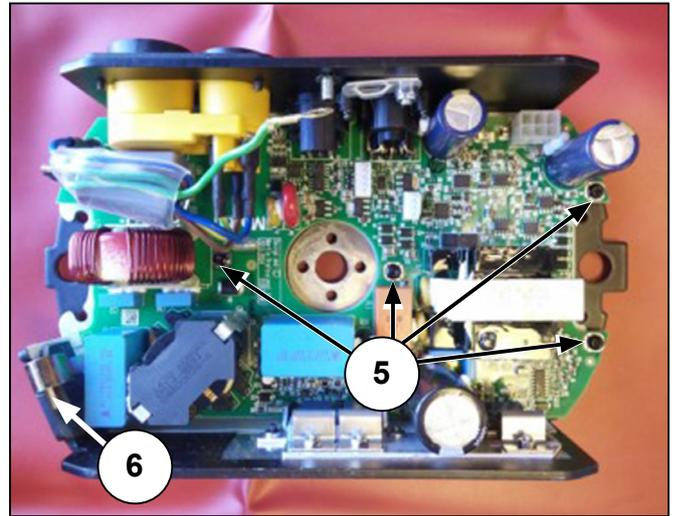

Figure 46: Removing screws and clip
11. Be careful not to damage the cooling pad (8) of the bridge rectifier (figure 46, 6)